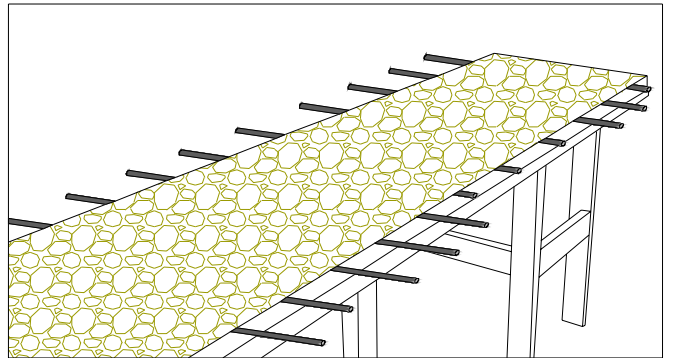

Figure 20C
- Bond laminate to substrate using the manufacturer's recommendations and procedures. (FIG. 20C)